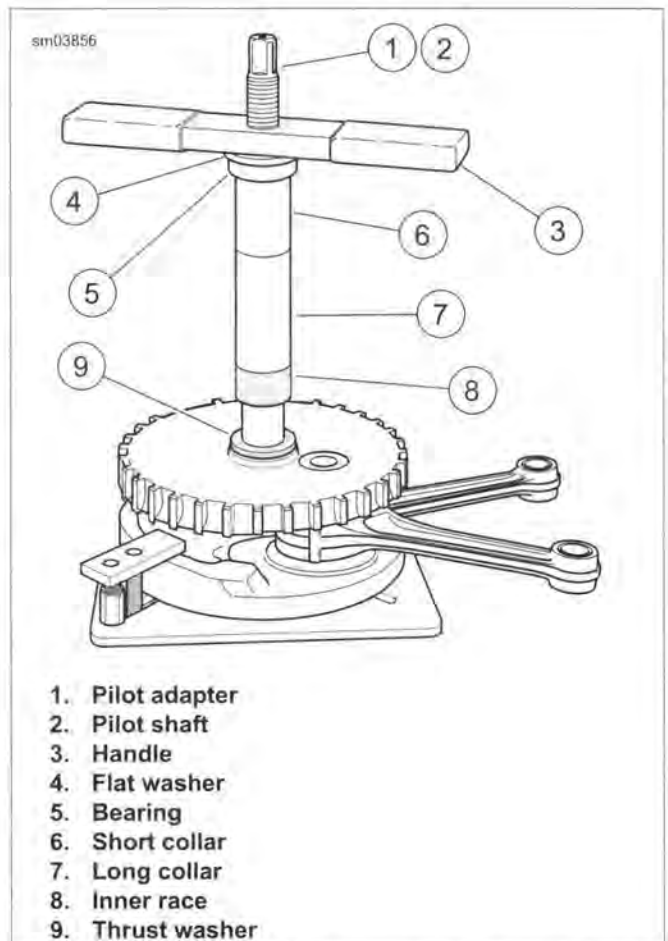

Figure 3-125. Press Inner Race onto Sprocket Shaft: Setup
- g. See Figure 3-125. Turn handle onto pilot shaft.